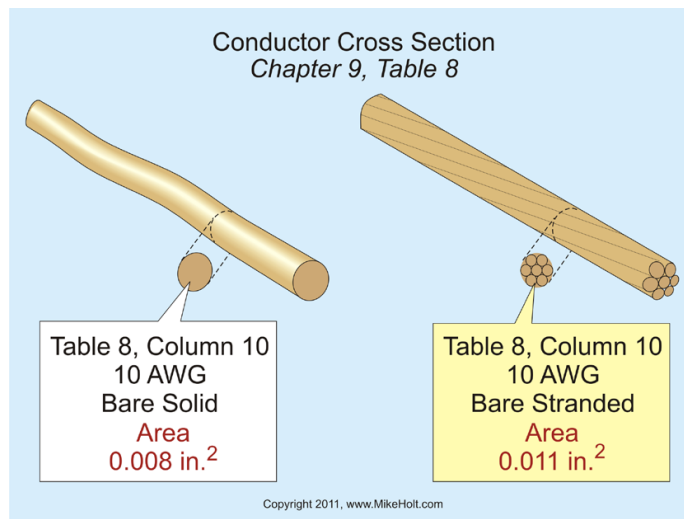

**Figure 5-14**
**Question:** How many 8 THHN conductors can be installed in a trade size 3/4 EMT? **Figure 5-14**